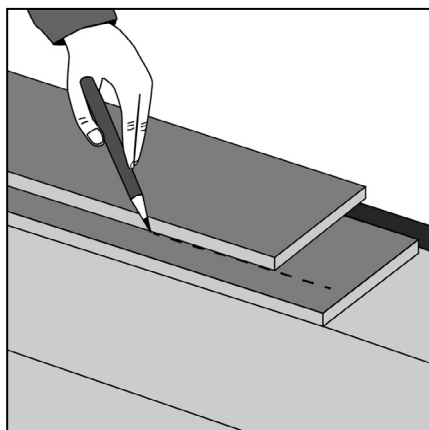

Figure 6 Last row, cutting the plank/tiles
- > To cut the planks/tiles to fit the last row, position them one at a time directly over the previous row in the direction you'll be laying them. Lay these planks/tiles on top of the installed row (fig 6).
- > Use the edge of this board to mark the cutting line with a pencil on the board beneath. Remember to allow for the expansion gap (Fig 6).